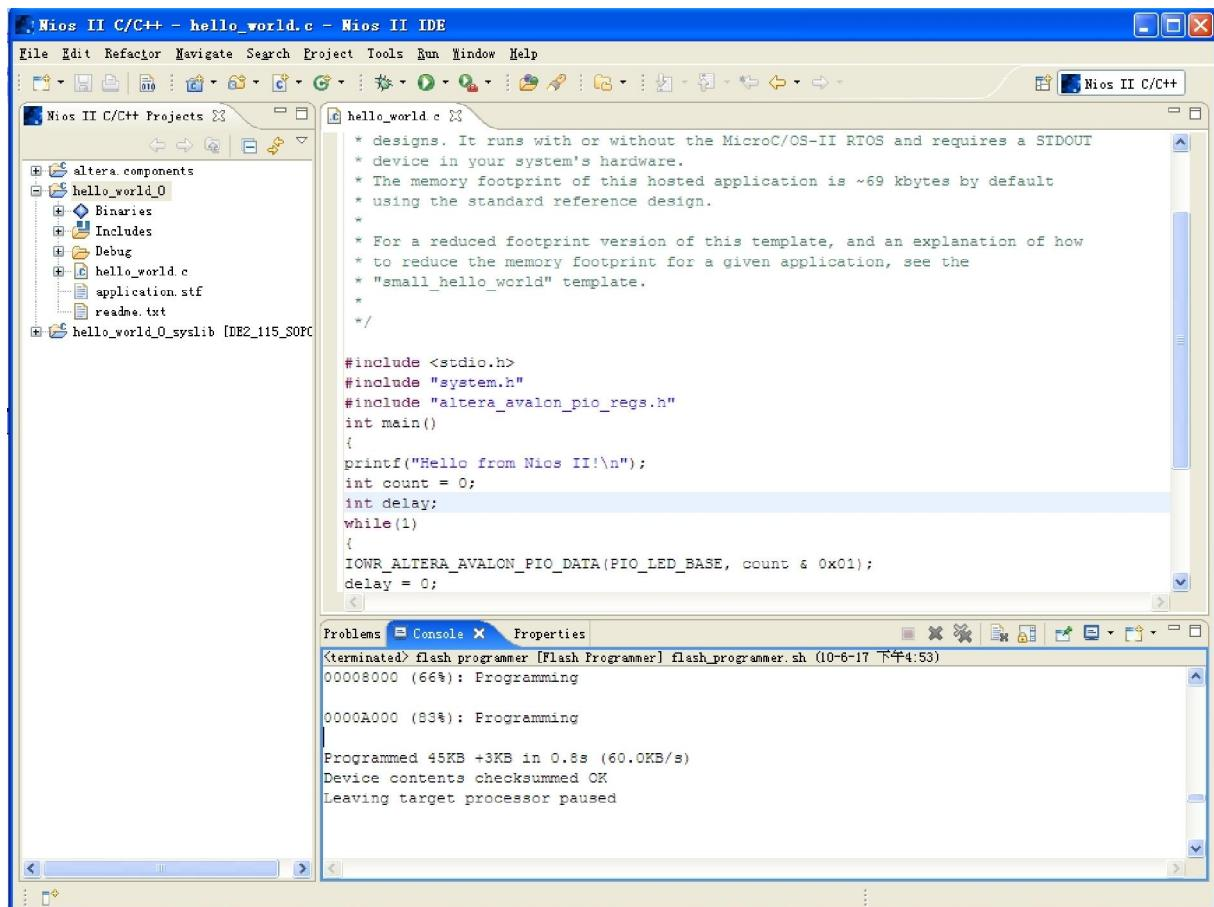

Figure 3-17 Program Flash completely
4. When program flash completely, the console tab displays as shown in **Figure 3-17**.